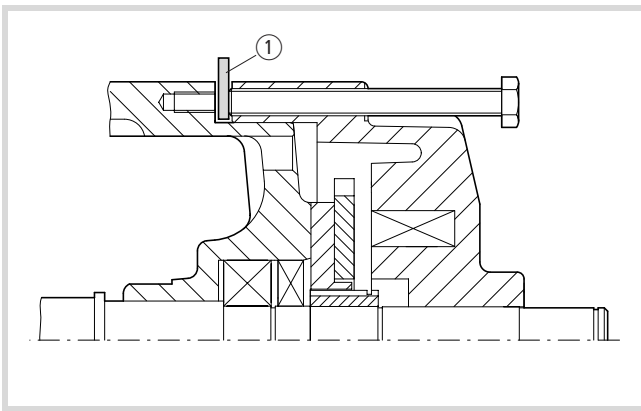

Figure 5: Inserting a metal strip
Insert a metal strip (→ item ① in Fig. 5) under the forcing-off screws as soon as the housings have come apart, in order to protect the thread in the motor housing.